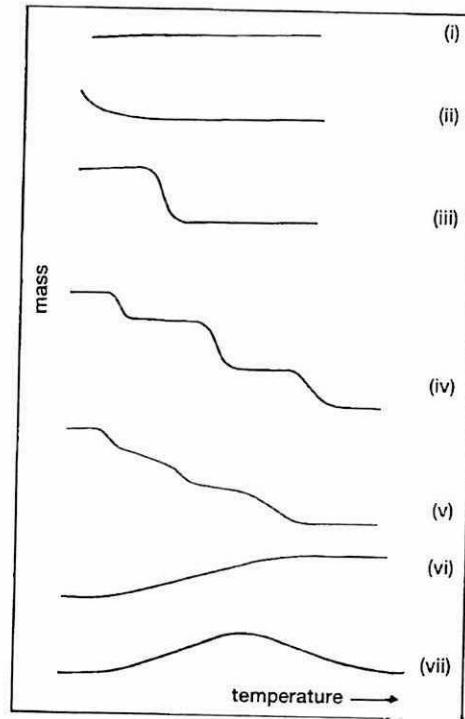

Figure Q6.1.
- (b) Write TWO (2) functions of dynamic mechanical analysis (DMA). (4 marks)
- (c) Examine SIX (6) of the typical weight loss profile of TGA as shown in **Figure Q6.1**. (6 marks)